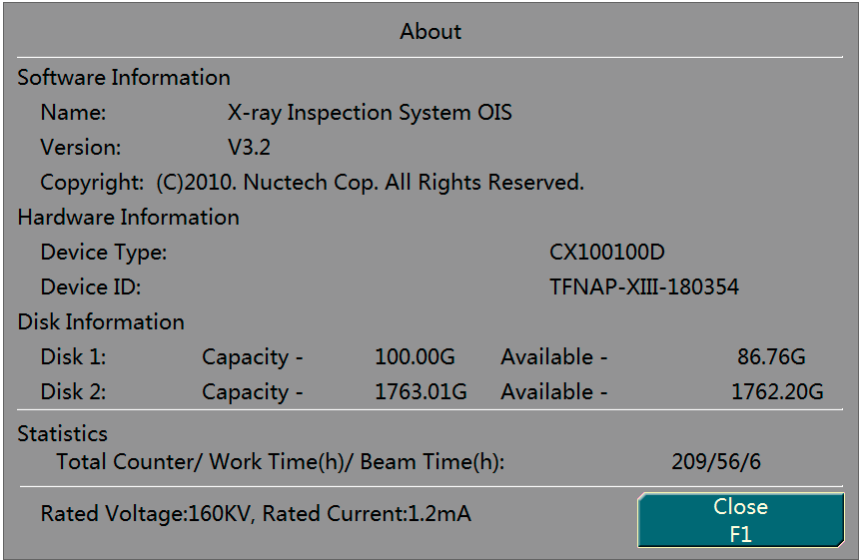

Figure 19-2 Main Interface of System Basic Information
Step 2 In the main menu, choose About or press the Increase key on the operation keyboard, to display the About interface, as shown in Figure 19-2.